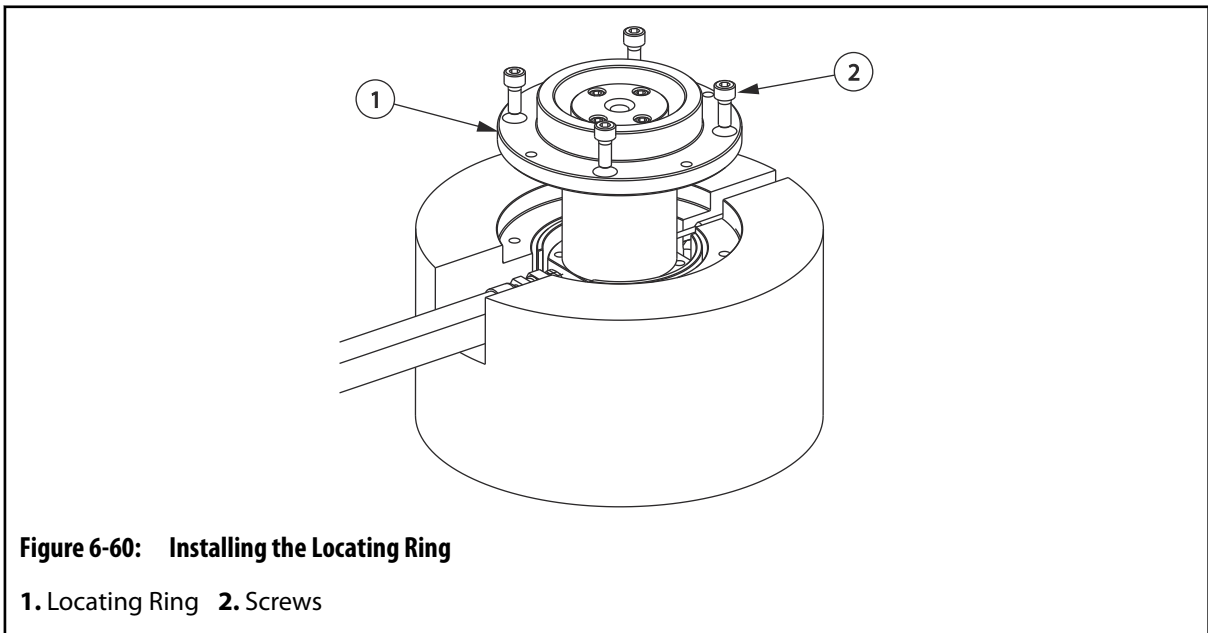

Figure 6-60: Installing the Locating Ring
8. Place the locating ring over the assembly, making sure the slot in the locating ring seat is aligned with the hard wire on the sprue body heater. Refer to Figure 6-60.